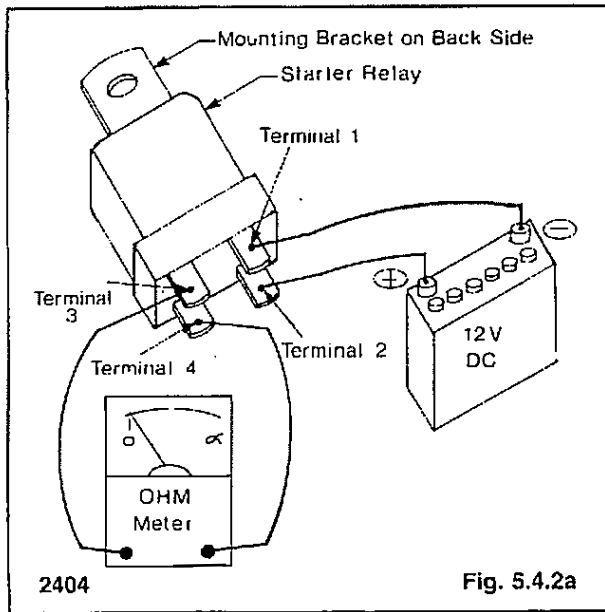

Fig. 5.4.2a
2. Connect a jumper lead from the starter relay 2 terminal to the battery positive  $\oplus$  terminal (Fig. 5.4.2a).
3. Connect a jumper lead from the starter relay 1 terminal to the battery negative  $\ominus$  terminal (Fig. 5.4.2a)